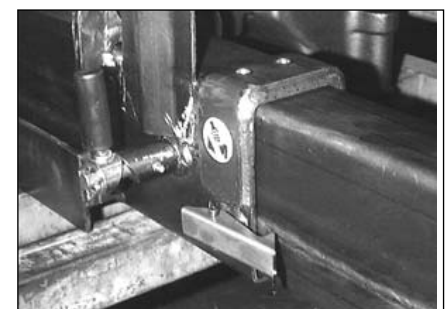

fig. 9
- Position the lever **B** (fig. 9) upwards; the spring loaded security pin of the device will be released from its position.